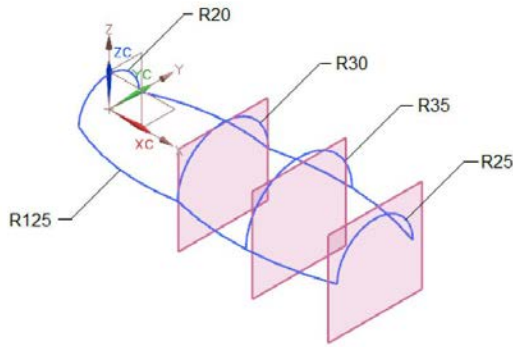

Figure 11-90 Dimensions of sections and guide curves
- First create the base surface. The base surface is created by using the open sections and the guide curves, refer to Figures 11-90 through 11-92.
3. Create three planes at an offset distance from the YC-ZC plane, as shown in Figure 11-90. For the offset distance of planes, refer to Figure 11-89(a).
4. Create sections and guide strings to create a studio surface, as shown in Figure 11-90. For dimensions, refer to Figure 11-89(a).